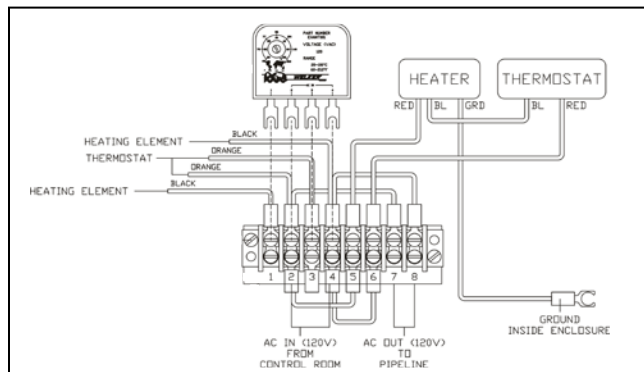

Figure 5
- 2.2.12 Make the AC connections from the pipeline and control room (see Figure 5).